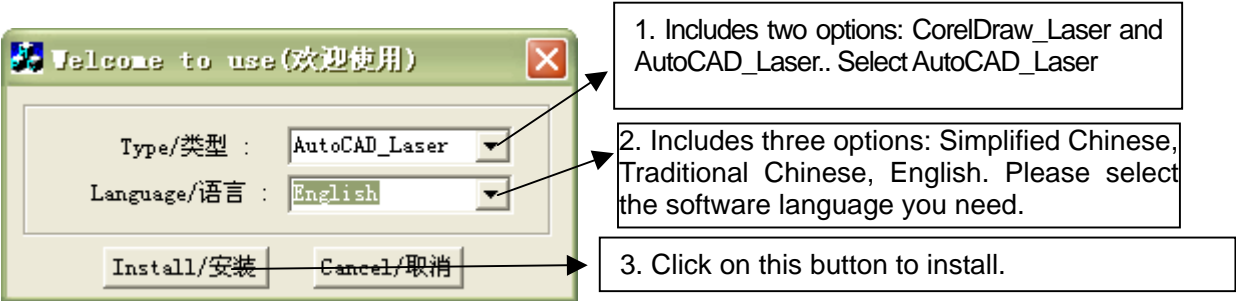

Figure 2-1 Software installation
4. Double click on  , the software installation menu will pop up as Figure 2-1:
As shown in figure 2-1, select AutoCAD_Laser, select software language, then click on the Install button, a prompt menu as shown in figure 2-2 will pop up to show successful installation.: